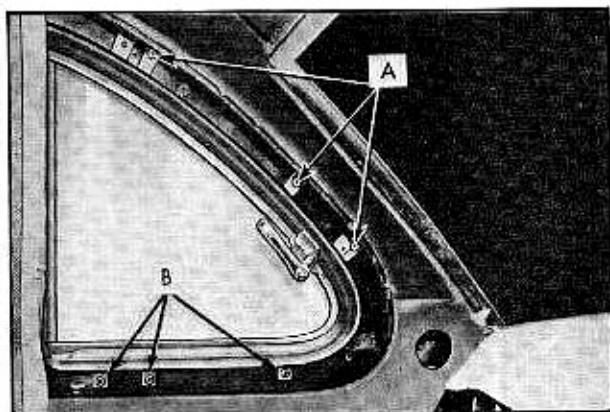

Fig. 3-43 Rear Quarter Vent Removal
5. Remove three ventilator to side roof rail screws "A". Fig. 3-43.
6. Remove three ventilator to rear quarter inner panel screws "B". Fig. 3-43. Carefully loosen rubber weatherstrip from sealer on wall of rubber around window opening and push glass from the outside, removing the entire assembly from inside the body.
3. Install three upper and three lower retaining screws, Fig. 3-43, and place headlining back into position.
(40) Rear Quarter Window Adjustment